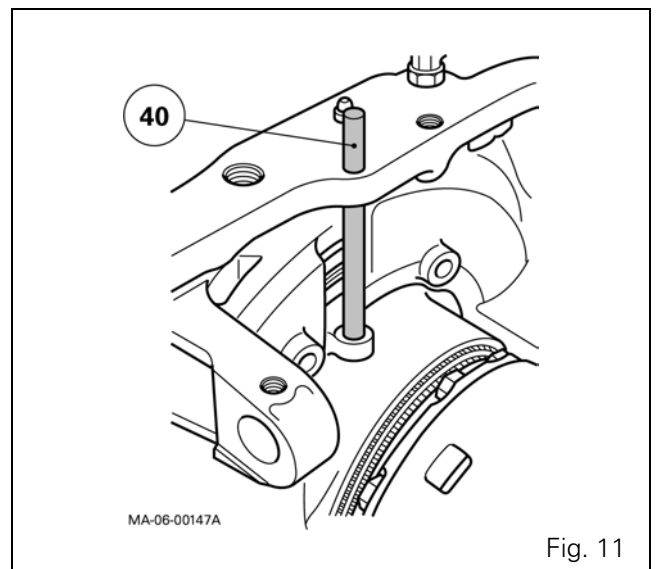

Fig. 11
31. Take off the pipe (40) (Fig. 11).